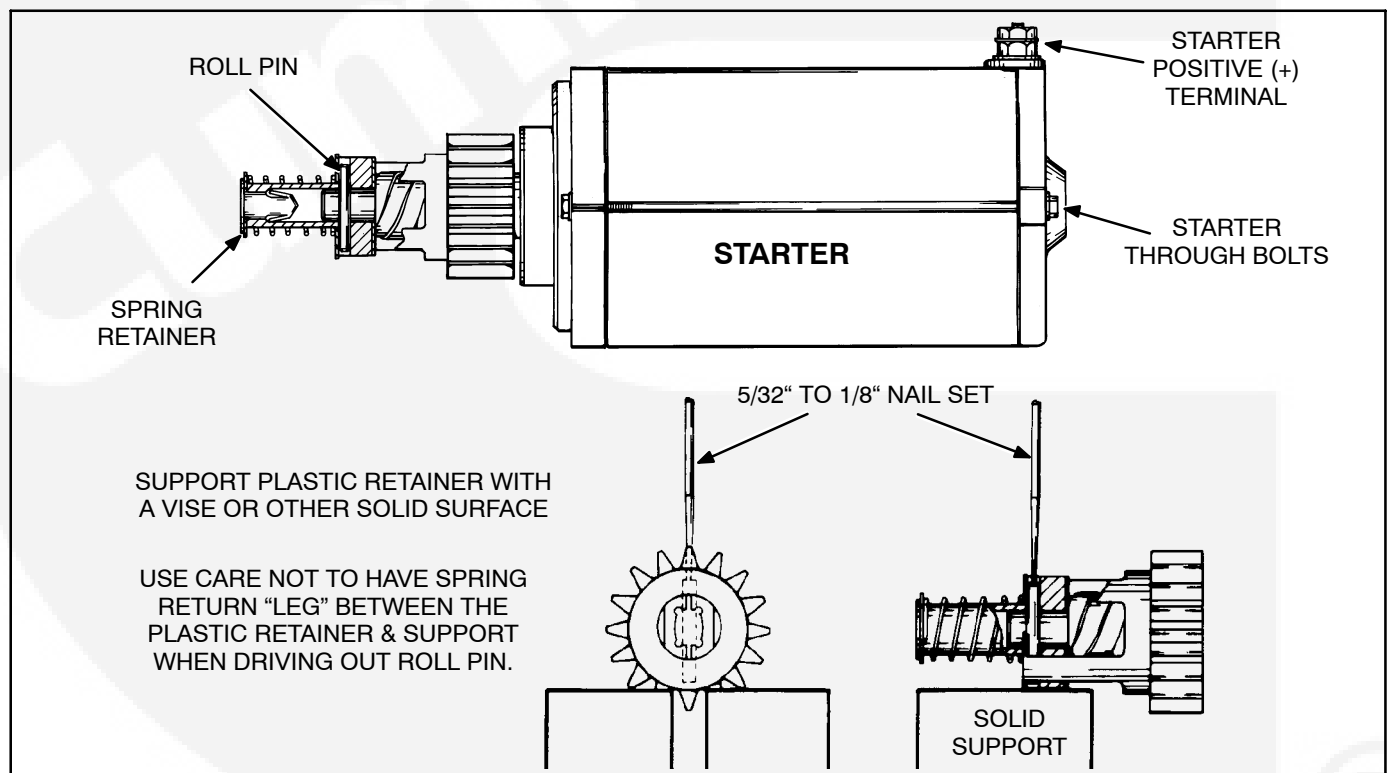

FIGURE 8-29. DRIVING ROLL PIN OUT
4. Use a 1/8 to 5/32 inch nail set to remove the roll pin from the armature shaft. Remove the return spring, gear and clutch assembly as required. When reassembling always use a new roll pin. See Figure 8-29.